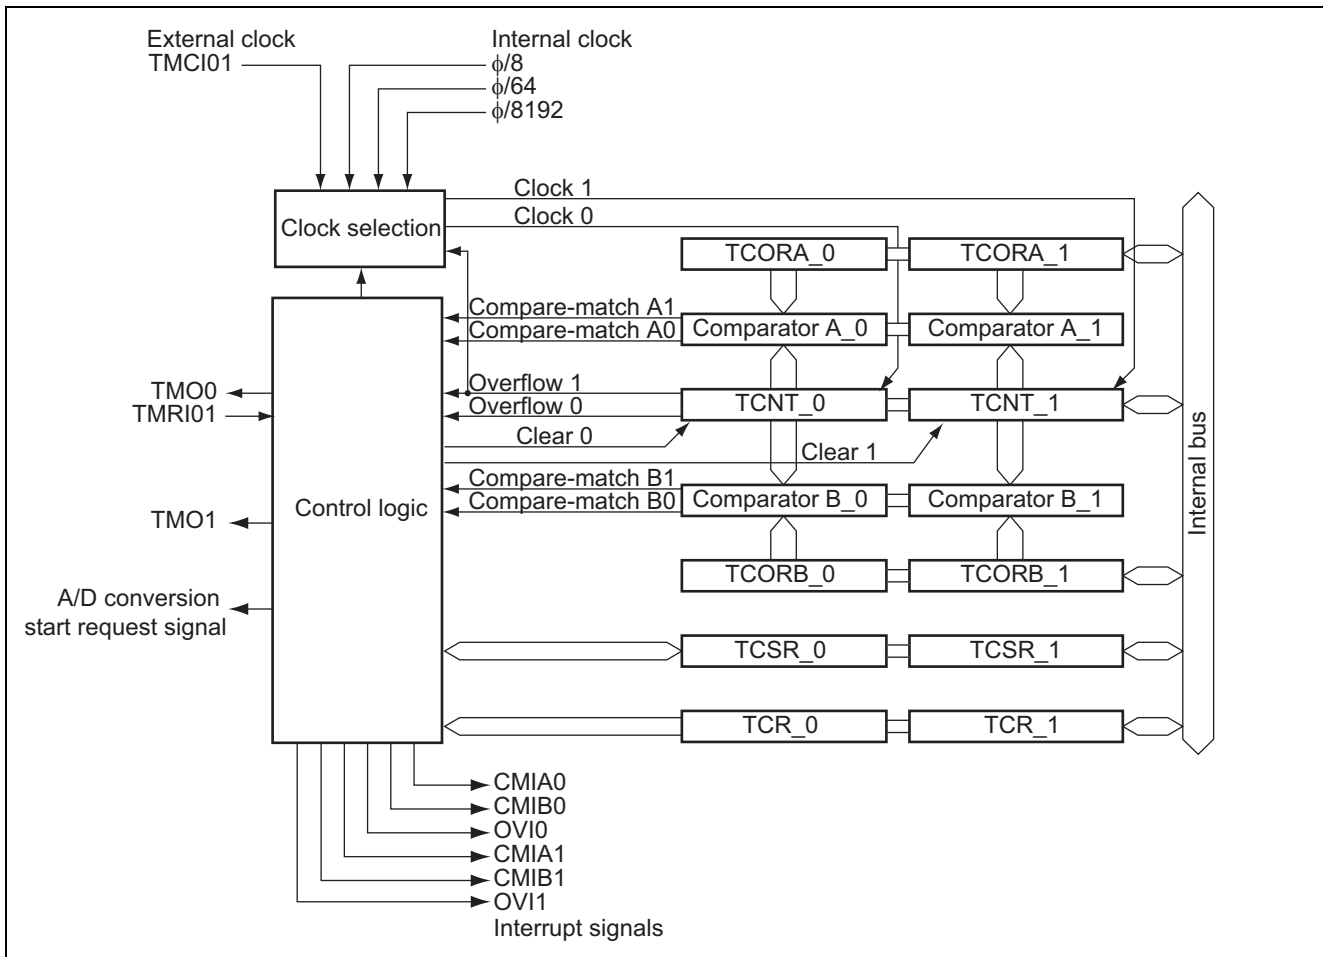

Figure 2 Block Diagram of 8-Bit Timer
1. Figure 2 shows a block diagram of the 8-bit timer, and the following is the description of the block diagram: